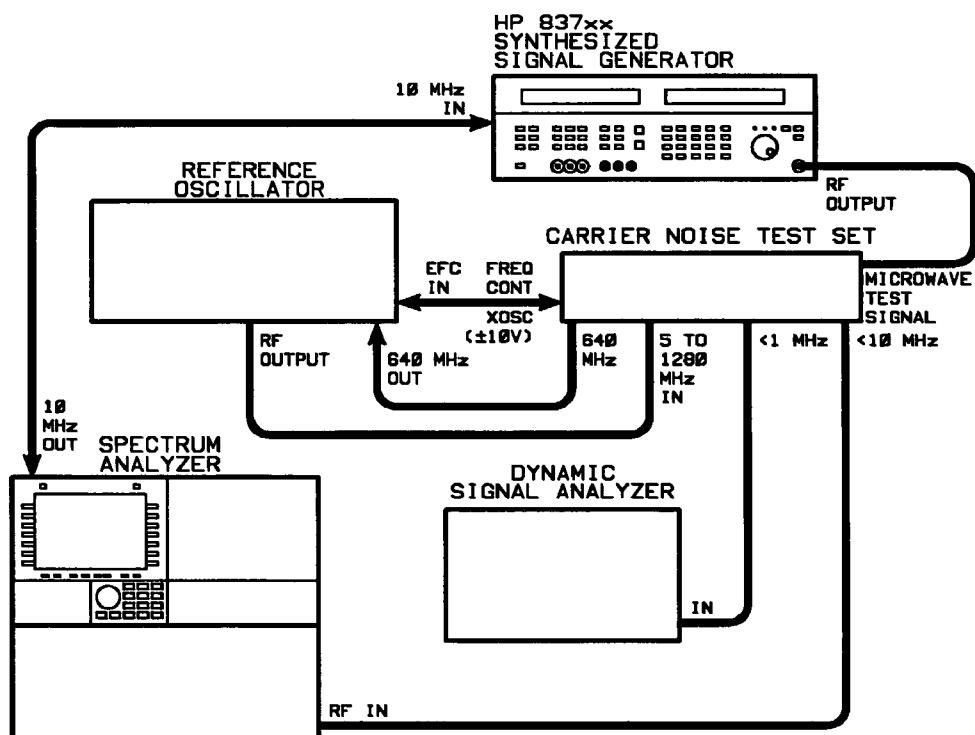

Figure 3-11. Non-Harmonic Spurious Level <30 kHz Test Setup
1. Connect the equipment as shown in Figure 3-11.